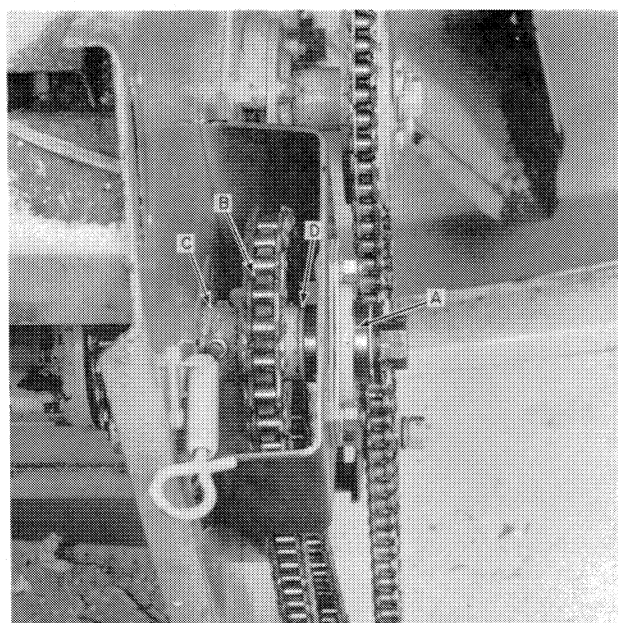

Figure 2-32
4. Insert the outside end of the shaft through the side sheet and install in order: lock collar, C; sprocket, B; shim washer, D; and bearing, A, Figure 2-32. Snug the bearing flangette hardware. Leave lock collar, C, loose.
8. Position the drive shaft so a washer can be placed between the cotter pin and bearing, A, Figure 2-32.
NOTE: Make sure there is enough shaft exposed past bearing, A, Figure 2-32, for one or two shim washers between the bearing and cotter pin.
Use a shim washer, D, Figure 2-32, between the sprocket and bearing. Shim between the outboard bearing and cotter pin.